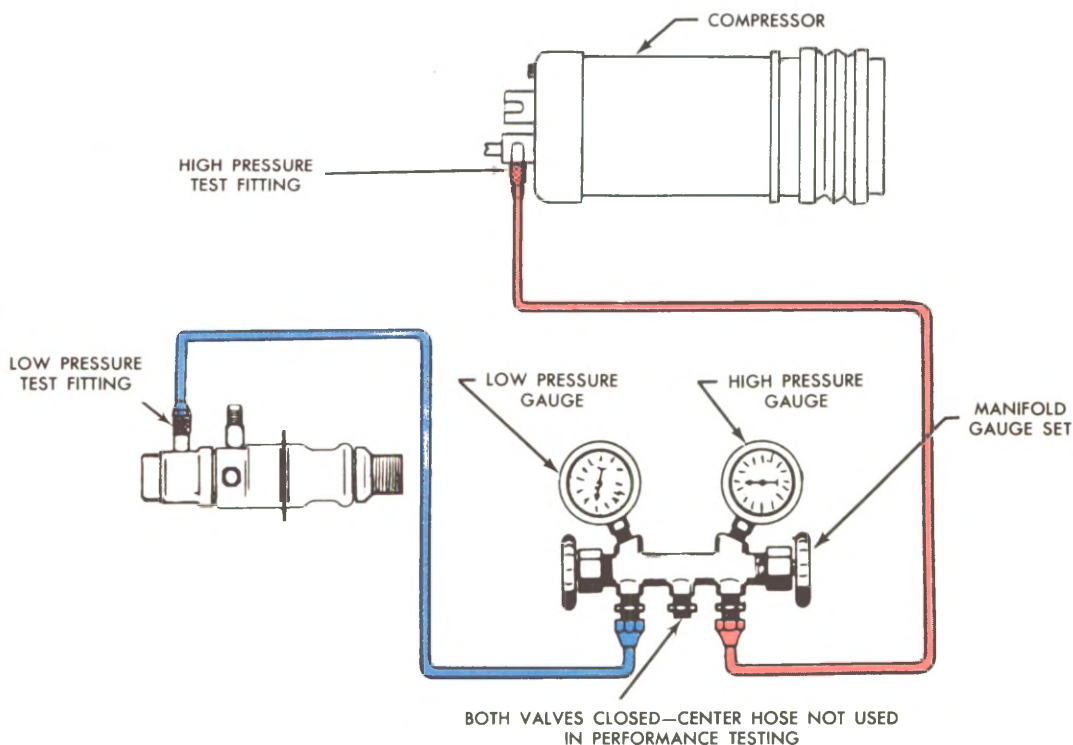

Fig. 3-11 — Performance Testing
1. Connect manifold gauge set to respective high and low pressure fittings as shown in Fig. 3-11, with both valves closed. (This is typical of service fitting locations on a GM installation. With other installations these fittings will be found in various locations with the high and low pressure sides of the system.)